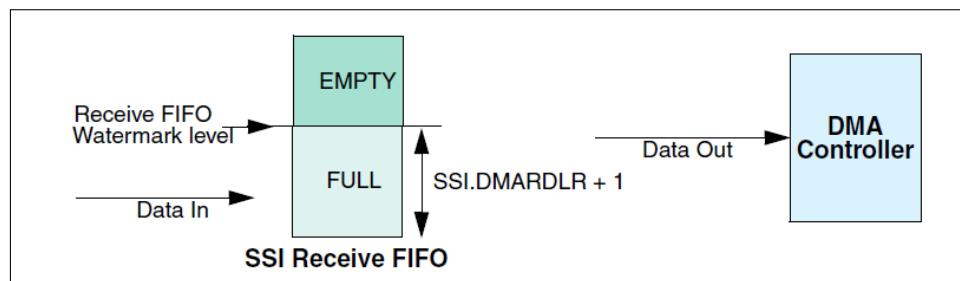

Figure 19.46: Burst Transaction pclk = hclk
Similar to choosing the transmit watermark level described earlier, the receive watermark level, DMARDLR+1, should be set to minimize the probability of overflow, as shown in Figure 19.46. It is a tradeoff between the number of DMA burst transactions required per block versus the probability of an overflow occurring.
As seen in Figure 19.46, programming a source burst transaction length greater than the watermark level may cause underflow when there is not enough data to service the source burst request. Therefore, equation (3) below must be adhered to avoid underflow.